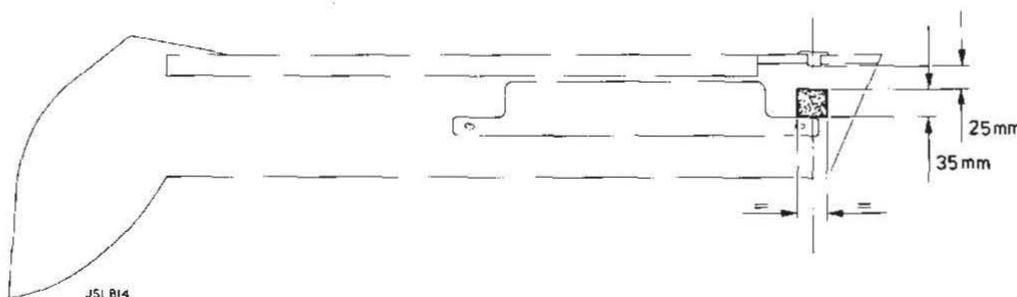

Fig 9
Reports have been received highlighting a rattle which occurs when the sill button makes intermittent contact with its bezel surround. To correct vehicles with this complaint modification has also been introduced on all new vehicles from VIN 531580. Fit the foam pad to the door top roll inner face at the location indicated in (Fig 9). This pad puts a constant load on the link sill rod, which prevents any intermittent movement of the sill button in its bezel. To modify cars in service which are experiencing this complaint prior to the previously stated VIN – the following rectification method should be carried out.
- 2 Adhere the foam pad Part No BDC 6887, refer to (Fig 9) for location. The foam pad should be adhered to the top roll using Dunlop S1358 or an equivalent adhesive. Allow the specified cure time before proceeding with refit of top roll.
Note: If this rectification is essential the foam pad must be positioned as shown in (Fig 9).